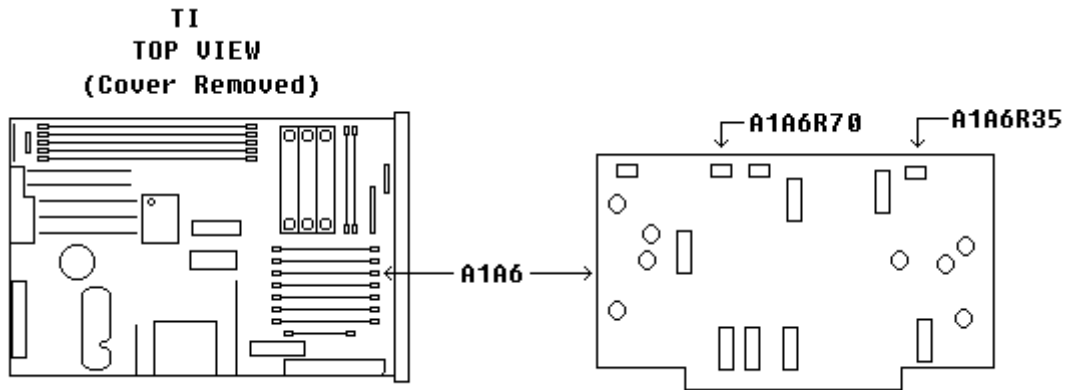

Figure 15. FM Adjustment locations.
(2) Press TI keys as listed in (a) through (g) below:
(3) Set the audio analyzer to produce a 100 kHz, 0.01 V LEVEL STEP size, 1.414 V output with 600Ω output impedance, then select special function 17.
(4) Set measuring receiver and local oscillator to measure 15 GHz, then select **FM** measurement and **300 Hz HP FILTER, 3 kHz LP FILTER,** and **+PEAK** detector.
(5) Adjust A1A6R35 (fig. 15) for an indication of 100.0 ±1 kHz FM deviation on the measuring receiver (R).
(6) Adjust A1A6R70 (fig. 15) until TI meter indicates 100 kHz FM Deviation (needle at full scale) (R).